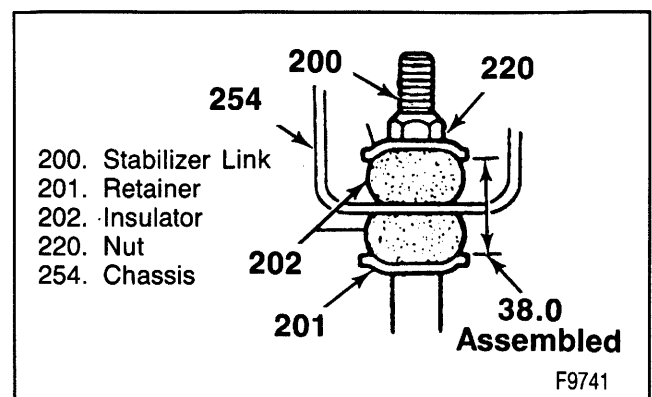

Figure 51—Stabilizer Link Hardware Tightened Dimension
4. Link into the hole on the spring spacer (242) and axle.
5. Insulator (202), retainer (201), and nut (220).
- Nut (220) until the distance between each retainer (117) is 38.0 mm (1.5 inches) (figure 51).
- Nut (220) until the distance between each retainer (201) is 38.0 mm (1.5 inches) (figure 51).